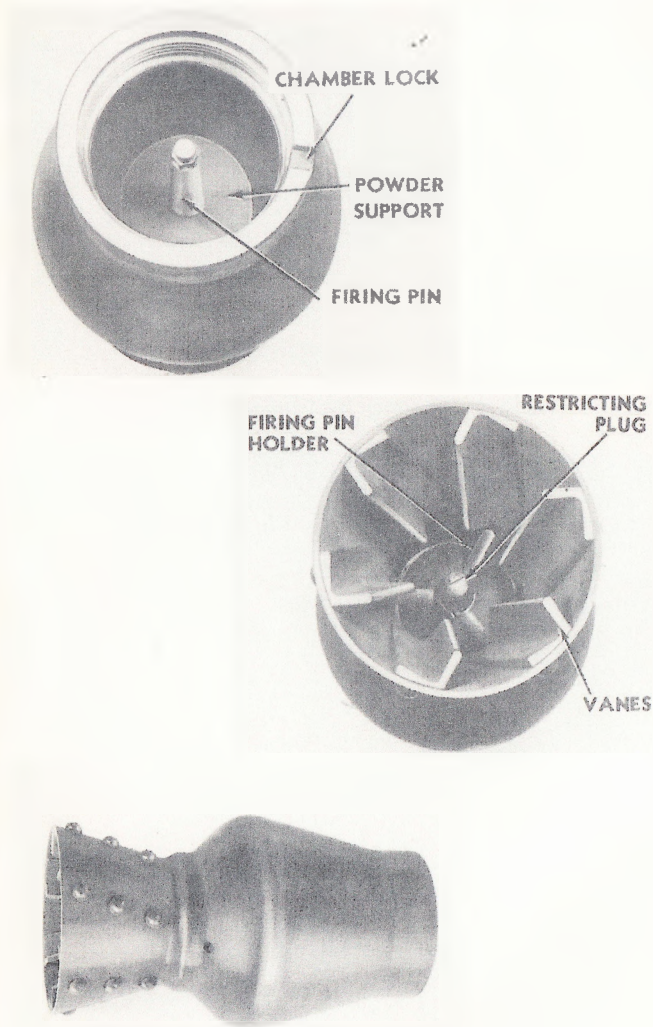

Fig. 24. Top, rear, and side views of reaction chamber.
a. The reaction chamber (fig. 24) includes six vanes, a three-legged firing pin holder, a powder support, firing pin, and restricting plug. The chamber has an open throat at the rear through which gases are permitted to escape with linear momentum equal to that of the shell.
b. Six vanes are riveted to rear of chamber as indicated in figure 24, using cold headed riveting. Vanes are set at an angle of 15 degrees to introduce angular momentum, to counterbalance the reaction to the rotation of the shell. Vanes are carefully fitted to the chamber and securely riveted to prevent gas leakage around vanes and rivets.
c. Within the reaction chamber, in front of the vanes, is the three-legged firing pin holder (fig. 24). The holder is assembled with a press fit and held in place by three guide screws in the chamber wall. The holder provides adequate throat area as well as support for the firing pin and powder support (fig. 24).
f. Threaded end of the reaction chamber has a slot to receive the chamber latch (fig. 24).